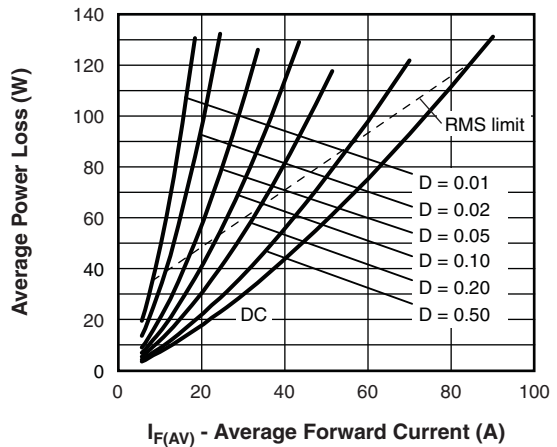

Fig. 6 - Forward Power Loss Characteristics
- (1) Formula used:  $T_C = T_J - (Pd + Pd_{REV}) \times R_{thJC}$ ;
- $Pd$  = Forward power loss =  $I_{F(AV)} \times V_{FM}$  at  $(I_{F(AV)}/D)$  (see fig. 6);